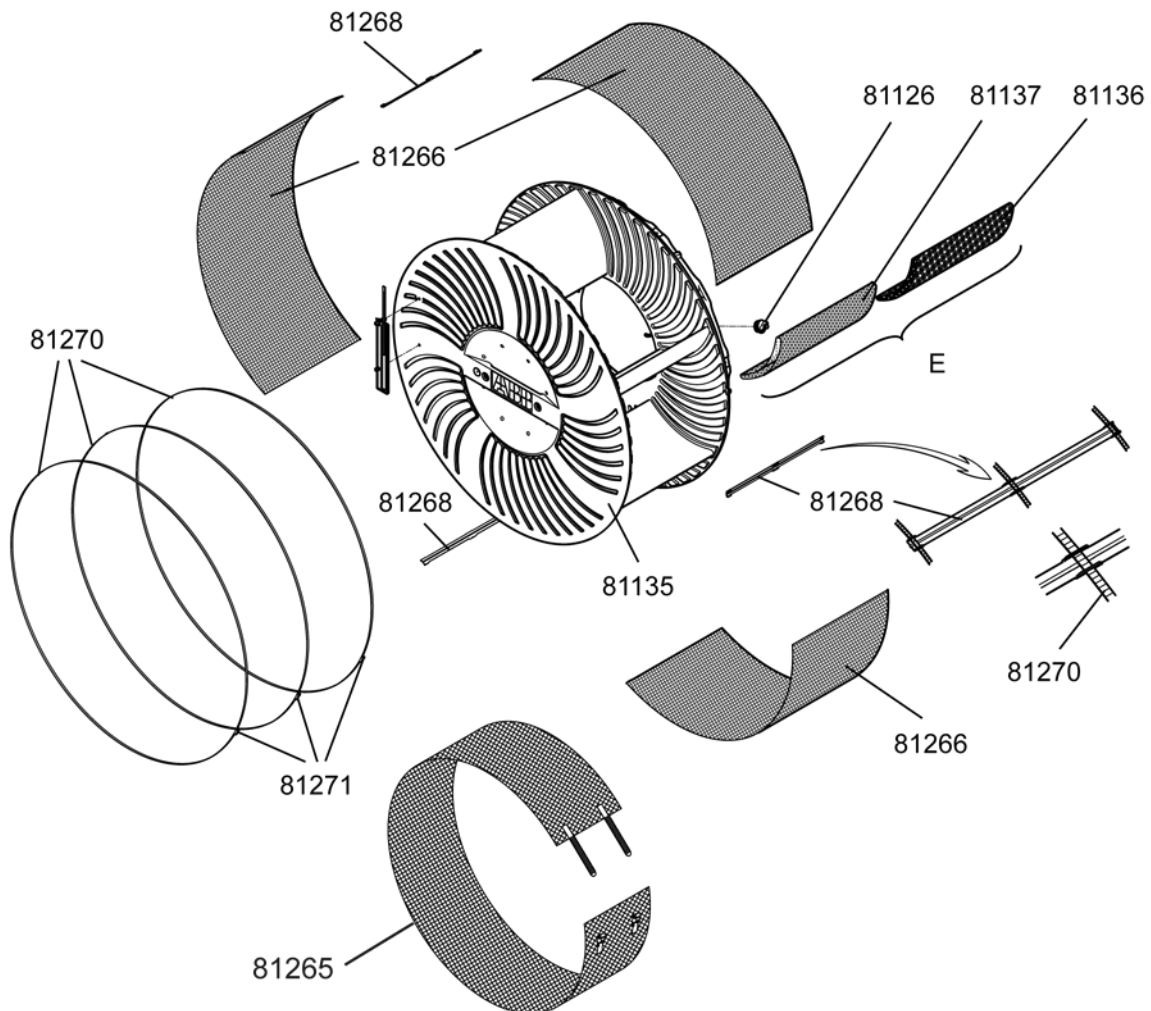

Figure 18
- ▶ Loosen the tension bands (81270) at the locks (81271) and remove them along with the cover grid (81266) and connecting strips (81268) (see Figure 18).
- ▶ Pull out insert units (E).